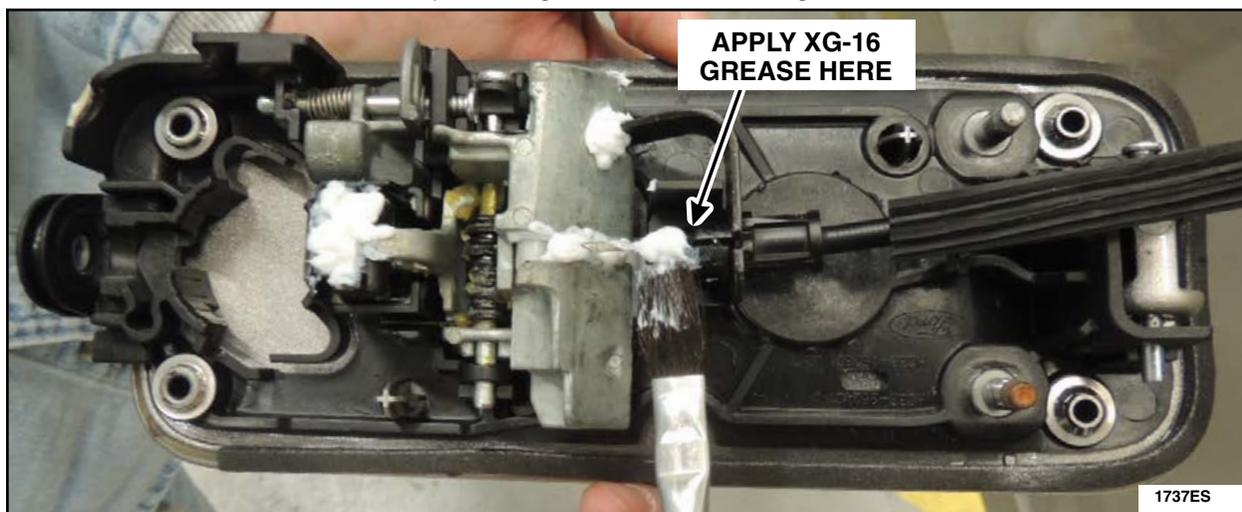

FIGURE 64
37. Reconnect the exterior door handle cable to the door handle and lubricate the door handle cable end with Motorcraft® XG-16 low temperature grease as shown in Figure 64.